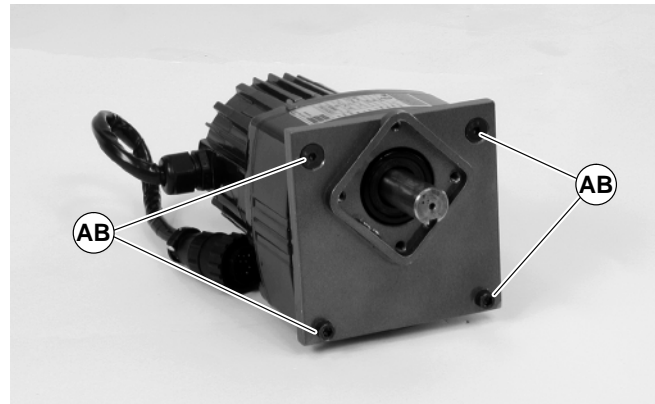

Figure 15
8. Remove four (4) adapter plate screws (AB of Figure 15). Remove adapter plate.